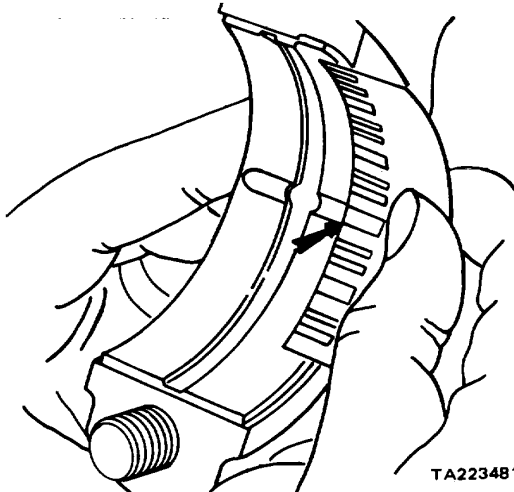

Figure 9-28. Checking Bearing Clearance with Plastigage.
- (1) Place a piece of plastigage near the oil hole of the bearing cap.
- (2) Position the cap on the block and secure with the two screws and lockwashers. Tighten the screws to 85 to 95 ft/lbs torque.
- (3) Remove the bearing and bearing cap. Check the bearing journal-to-bearing clearance indicated by the plastigage (fig. 9-28)